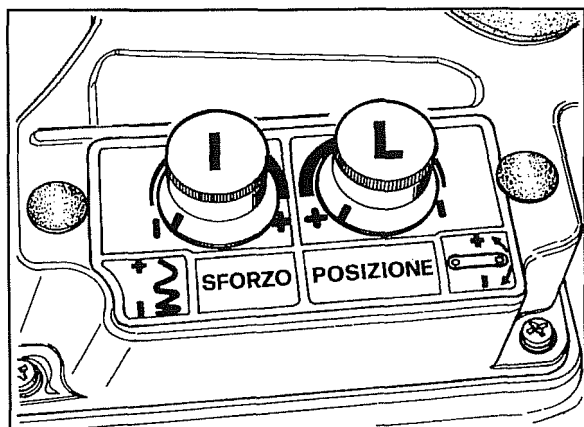

Fig. 51
- b. Regardless of what the stickers indicate Fig.51 and 52, turn both rheostats **I-L** all way counter-clockwise.